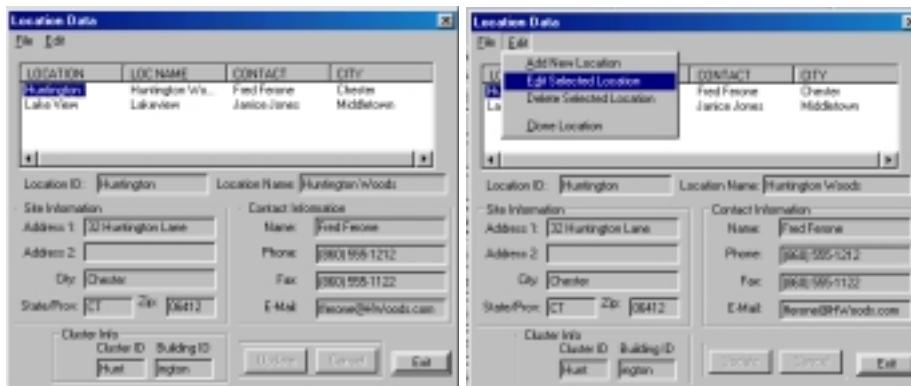

Figure 5.4 Editing Locations
2. Select the location you wish to edit from the Locations List Window (Figure 5.4).
3. Select Edit Selected Location from the Edit drop-down menu (Figure 5.4).